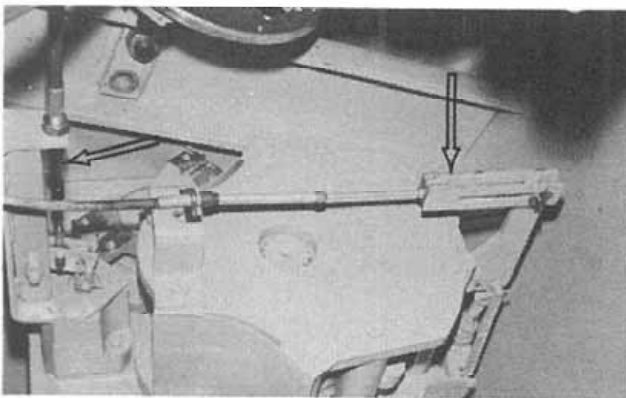
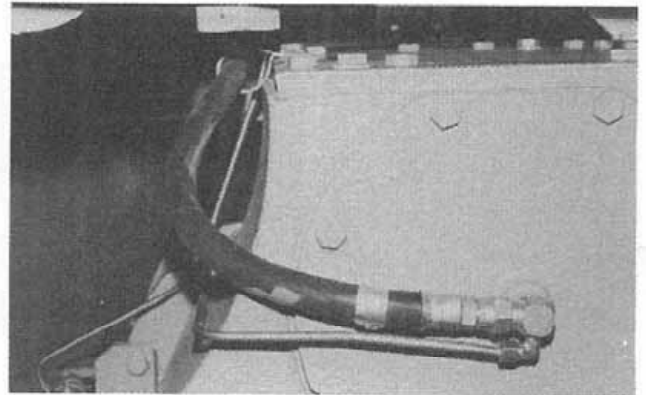

Figure 2:
Figure 3:
6. Disconnect the shift cable/yoke and park brake cable/yoke from their linkages (Fig. 2), then disconnect the oil feed hose (Fig. 3) on the rear of the unit.